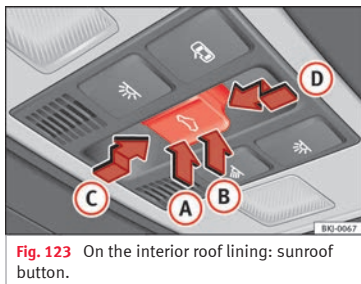

Fig. 123 On the interior roof lining: sunroof button.
The button  **Fig. 123** has two levels. The first level switches the sunroof to the tilted position, opening or closing it fully or partially.
- Before approx. 5 seconds of having activated the anti-trap function, press the button **☰** » **Fig. 123** to the second level in the direction of arrow » **Fig. 123** **D** until the sunroof closes completely.